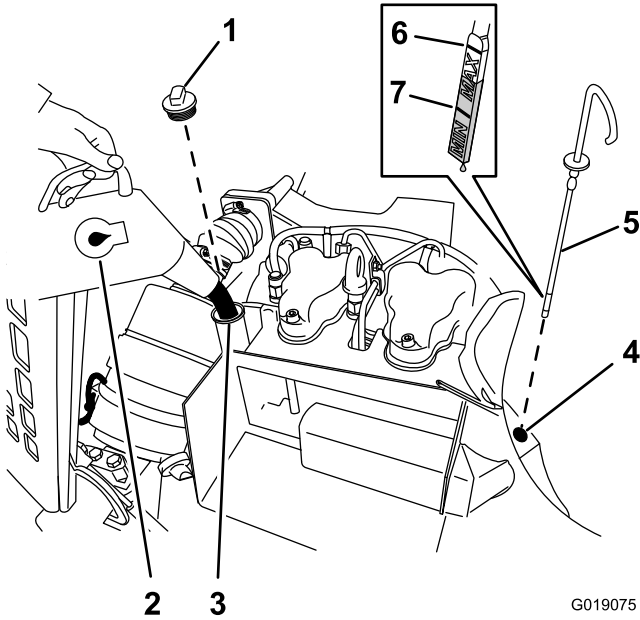

Figure 60
2. Slowly pour approximately 0.76 L (1.5 qt) of the specified oil in through the oil-filler neck (Figure 60).
- E. If the oil level is below the Min-level mark on the dipstick, slowly pour enough oil into the oil-fill tube to raise the level on the dipstick to between the Min- and Max-oil level (Figure 60).
- F. Install the oil filler cap in the filler neck (Figure 60).